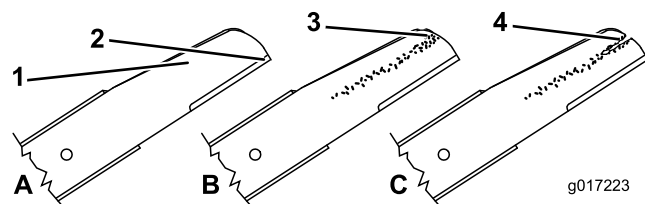
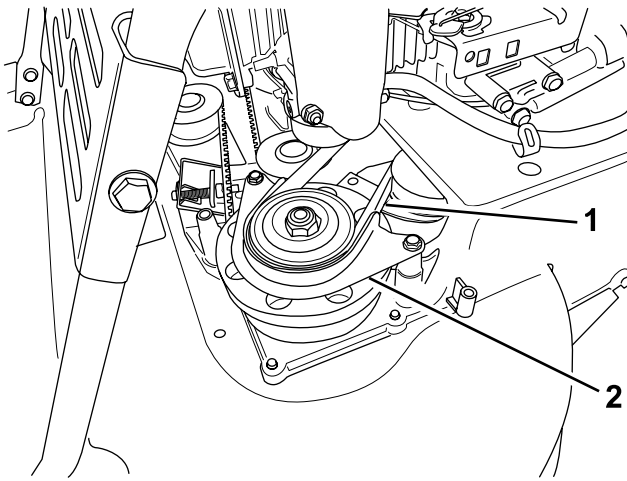

Figure 36
Figure 42
1. Inspect the cutting edges (Figure 36). If the edges are not sharp or have nicks, remove the blades and have them sharpened or replace them.
2. Inspect the blades themselves, especially the curved area (Figure 42). If you notice any damage, wear, or a slot forming in this area (Figure 36), immediately replace them with new blades.